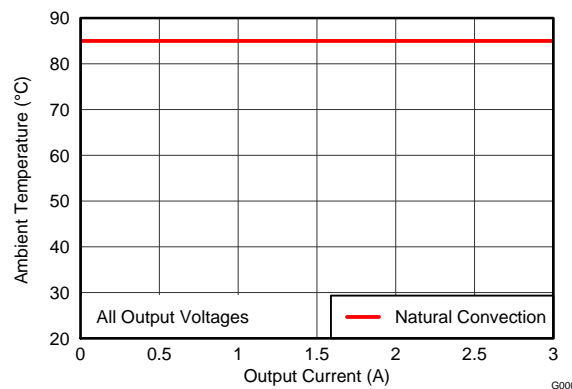

Figure 14. Safe Operating Area
- (2) The temperature derating curves represent the conditions at which internal components are at or below the manufacturer's maximum operating temperatures. Derating limits apply to devices soldered directly to a 100 mm \times 100 mm double-sided PCB with 1 oz. copper. Applies to Figure 14.